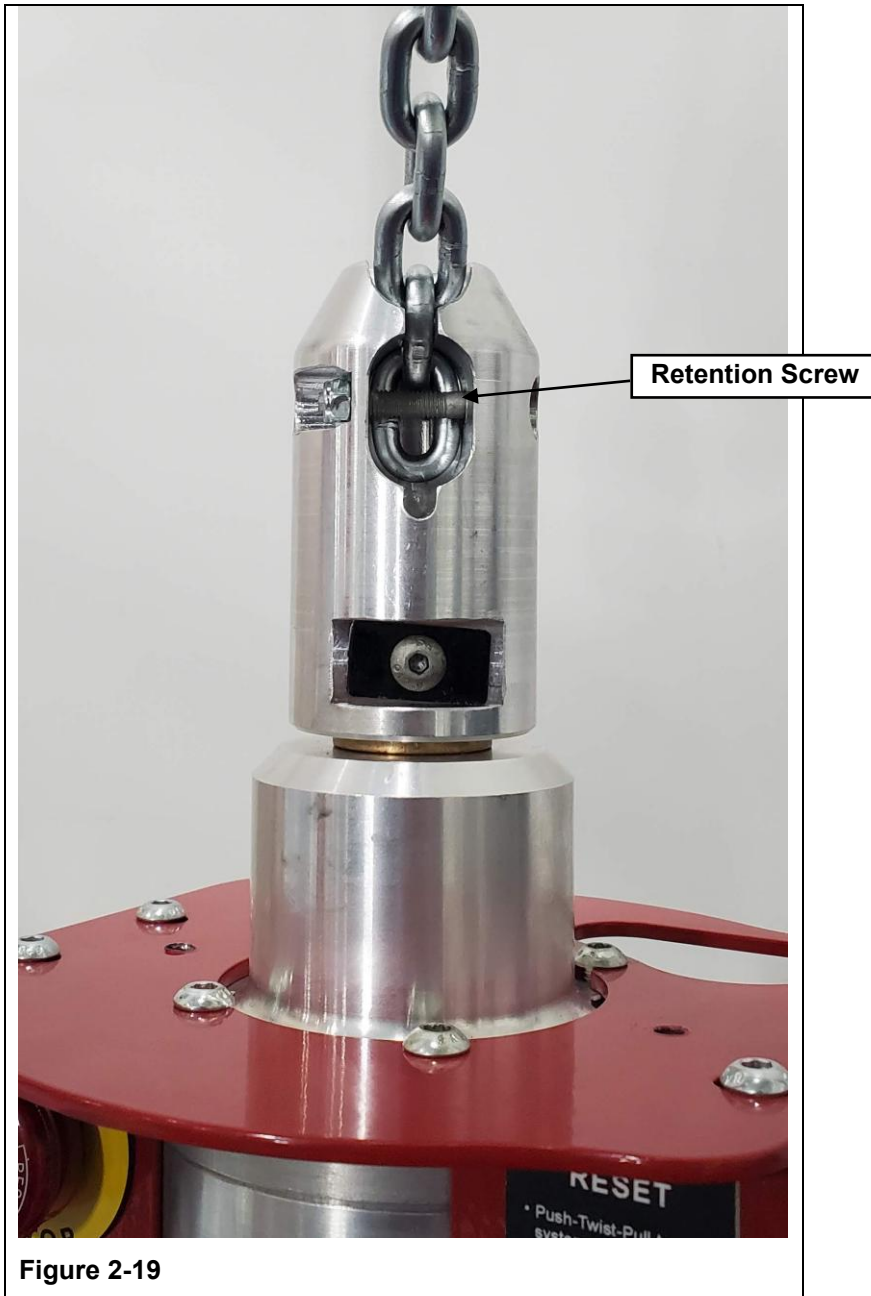

Figure 2-19
- Step 12. Place the load chain into the top portion of the chain nest and insert the screw provided thru chain nest in front of load chain's last link. This will be one link longer than previously installed allowing for a little slack at the lowest point to allow for removing the fixture from the part. (See Figure 2-19)